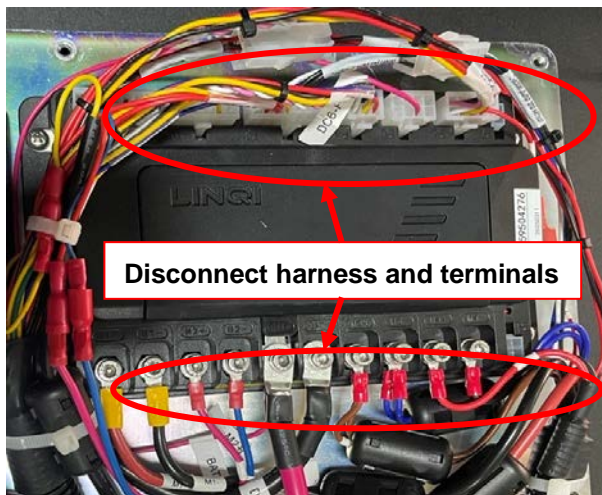

Figure 10
4. Disconnect all harnesses and terminals connected to Main Controller (EB1) (Figure 10).